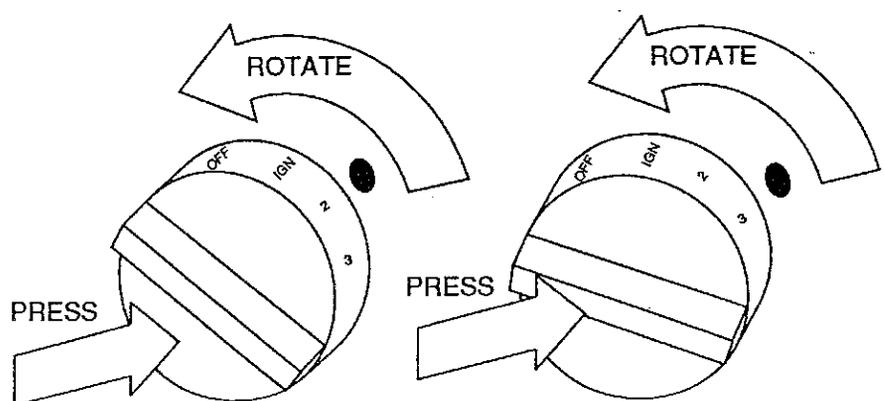

FIGURE 10A: LOW/HIGH Position
9. Press control knob and turn to desired setting (2 or 3). The control knob must be set at either the 2 (low) or 3 (high) position, and the control knob will pop out when positioned correctly. Do not set the control knob at a position between 2 or 3. Refer to Figure 10A.